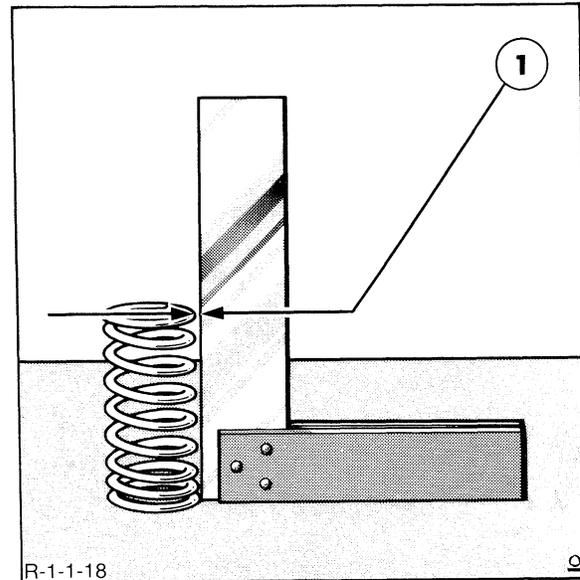

FIGURE 1-17
- Replace worn or damaged valve springs. Check for squareness and reject if out-of-squareness exceeds 0.06" (1.52 mm), Figure 1-17. Check the free length and loaded length of each valve spring as shown below. Be sure that the valve spring retainer locks are in good condition.